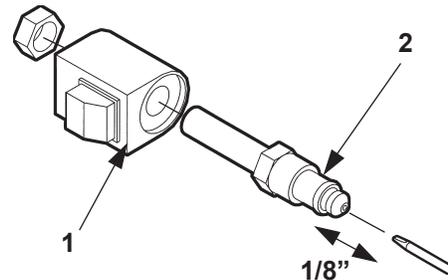

FIG. 49-2
2. Check the valve stem by removing the coil assembly (Item 1, FIG. 49-2). With platform on ground, unscrew the valve stem (Item 2, FIG. 49-2) from the pump. Push on the plunger that is located inside the valve stem by inserting a small screwdriver blade in the end. If the plunger does not move freely (approximately 1/8"), replace the valve stem. **When reinstalling valve stem, torque hex nut to 30 in-lbs.**